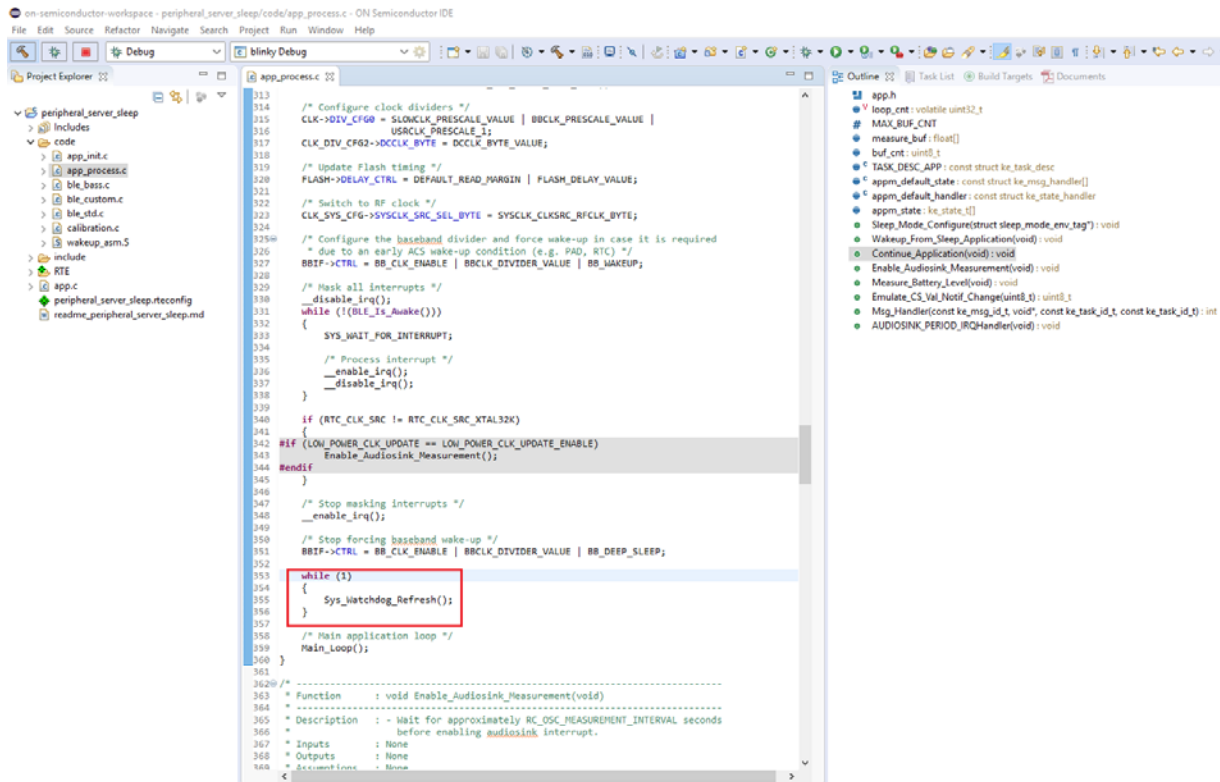

Figure 45. Continue_Application Function Perspective After Adding While Loop
2. Modify the function `void Continue_Application(void)` by adding a `while` loop before the `Main_Loop()` ; call, to make sure that the device stays awake in the infinite loop after waking up (see Figure 45). Save and compile your application.